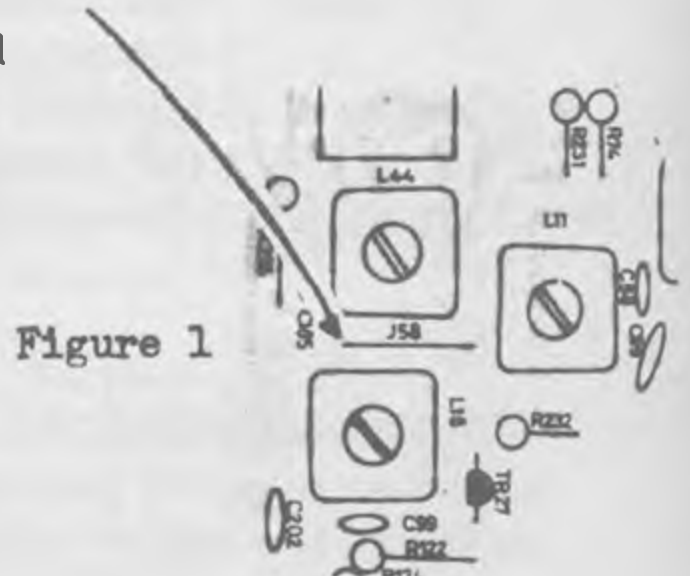

Figure 1
1. See Figure 1, locate J58 on left side of radio.
3. Run the four (4) wires from the CRC 100 through a hole in the back of radio.